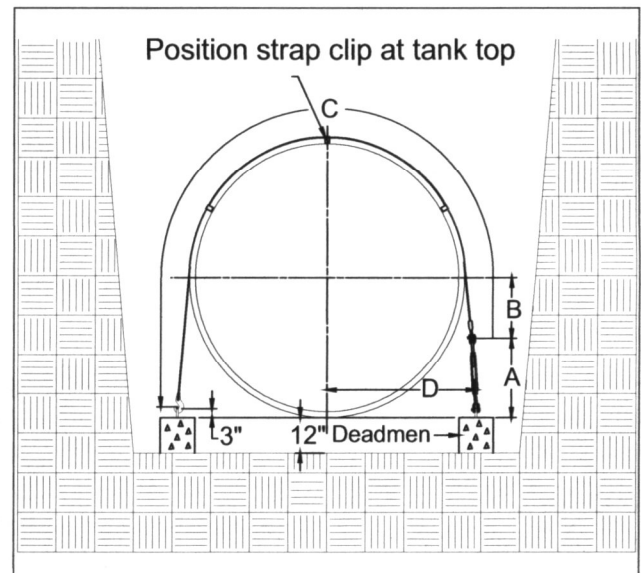

FIGURE 8-1
8.2.2.1. When installing any size tank, and when using Xerxes' D-ring/hook anchor straps and Xerxes' prefabricated deadmen, the deadmen are to be placed so that the top of the deadmen is even with the bottom of the tank. See FIGURE 8-1 and TABLE 8-1 for anchor-point dimensions.
Anchoring Dimensions for FIGURE 8-1
8.3.5. Locate the anchor points as shown in FIGURE 8-1 or 8-2 (whichever is applicable) and TABLE 8-1 or 8-2 (whichever is
8.5.2. For placement of Xerxes prefabricated deadmen, see FIGURE 8-1 or 8-2 (whichever is applicable) and the Xerxes supplement, *Prefabricated Deadmen Installation Instructions*.